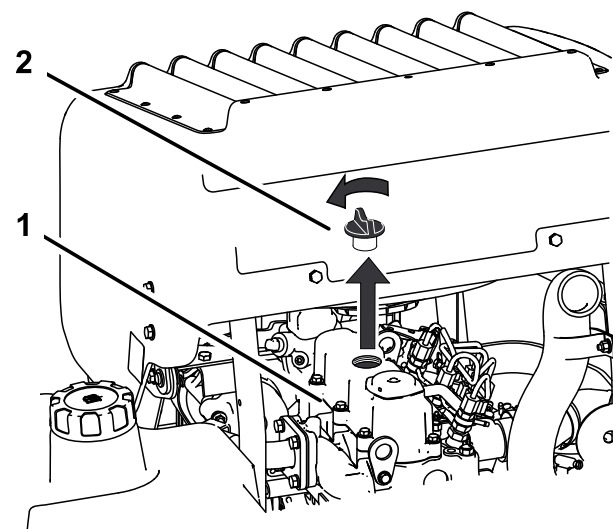

Figure 36
6. Remove the oil filler cap from the top of the engine (Figure 36). This will help the oil to drain.
2. Remove the oil filler cap and the dipstick (Figure 36).